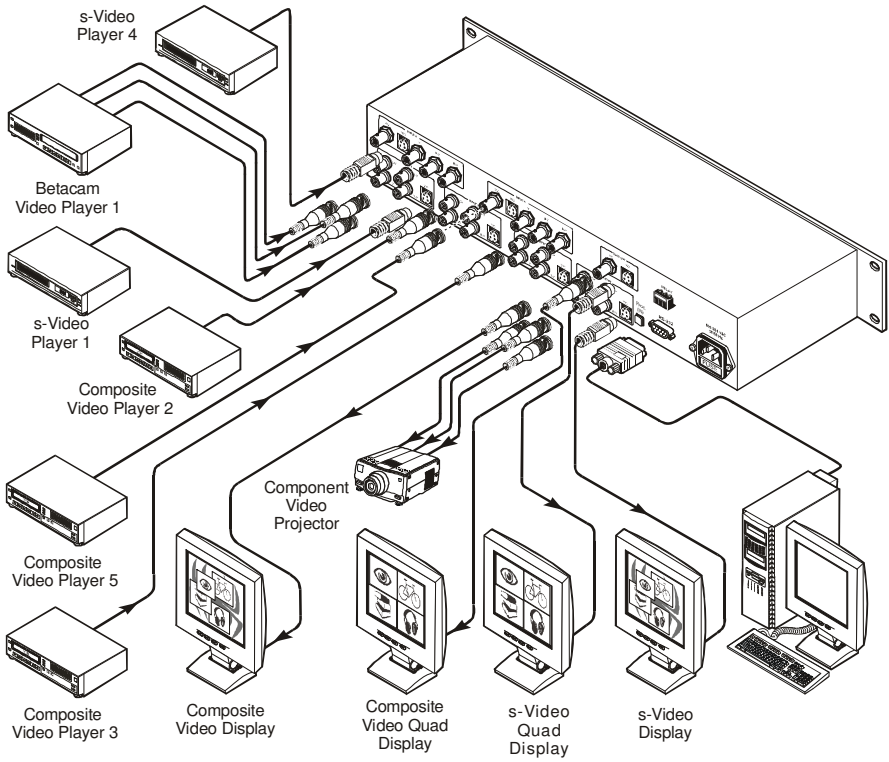

Figure 3: Connecting the PIP-500 Picture in Picture Inserter / Quad Split
To connect your **PIP-500**¹ as the example in Figure 3 illustrates, do the following²:
9. Connect the power cord⁸ (not illustrated in Figure 3).